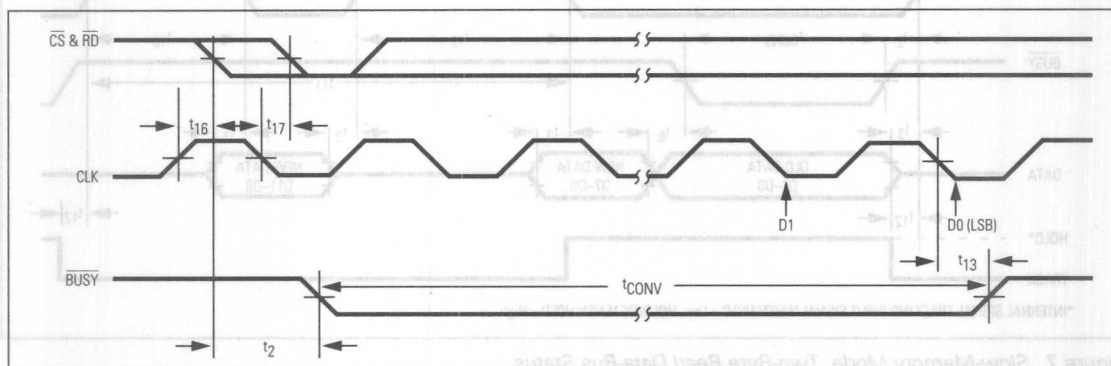

Figure 6. $\overline{CS}$, $\overline{RD}$, **HBEN** and **CLK** Synchronous Operation
The T/H enters its tracking mode when the ADC is deselected (CHIP SELECT (CS) is high and BUSY is high). Hold mode starts approximately 25ns after a conversion is initiated. The variation in this delay from one conversion to the next (aperture jitter) is about 50ps. Figures 6–10 detail the T/H and interface timing for the various interface modes.
The ADC is controlled by the $\overline{CS}$, $\overline{RD}$ (RD), and High-Byte Enable (HBEN) inputs as shown in Figure 6. The T/H enters hold mode and a conversion starts at the falling edge of $\overline{CS}$ and $\overline{RD}$ while HBEN is low. $BUSY$ goes low as soon as the conversion starts. On the falling edge of the 13th input clock pulse after the conversion starts, $BUSY$ goes high and the conversion result is latched into three-state output buffers.
For best analog performance, the MAX190 clock should be synchronized to the conversion start signals ($\overline{CS}$ and $\overline{RD}$) as shown in Figure 6. At least 100ns should separate the start of a conversion from the nearest clock edge. This
ensures that CLK transitions are not coupled to the analog input and sampled by the T/H. The magnitude of this feedthrough is only a few millivolts. When the clock and conversion start signals are synchronized, small end-point errors (offset and full-scale) are the most that can be generated by clock feedthrough. Even these errors (which can be trimmed out) can be avoided by ensuring that the start of a conversion ($\overline{RD}$ or $\overline{CS}$ falling edge) does not occur within 100ns of a clock transition (Figure 6).
In asynchronous mode, where CLK and conversion start signals ($\overline{CS}$ and $\overline{RD}$) are not synchronous, full-accuracy specification performances are realized with 0.8MHz clock; this insures a full 625ns for the MSB decision. In asynchronous mode, with clock frequencies greater than 0.8MHz, less than 625ns MSB decision times can occur. This shortened decision time can result in linearity errors at mid-scale. This linearity error can appear in the synchronous mode when the $\overline{CS}$ and $\overline{RD}$ to CLK hold (t_{16}) and setup (t_{17}) times are violated (Figure 6). Frequency components caused by clock and conversion start signals' overlap can increase the apparent input noise.